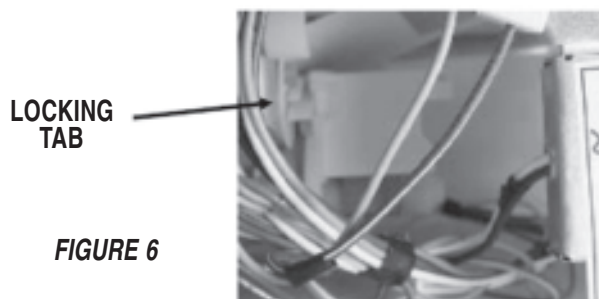

FIGURE 6
14. Remove the drain pump by depressing the locking tab and turning the drain pump counterclockwise. (Fig. 6).